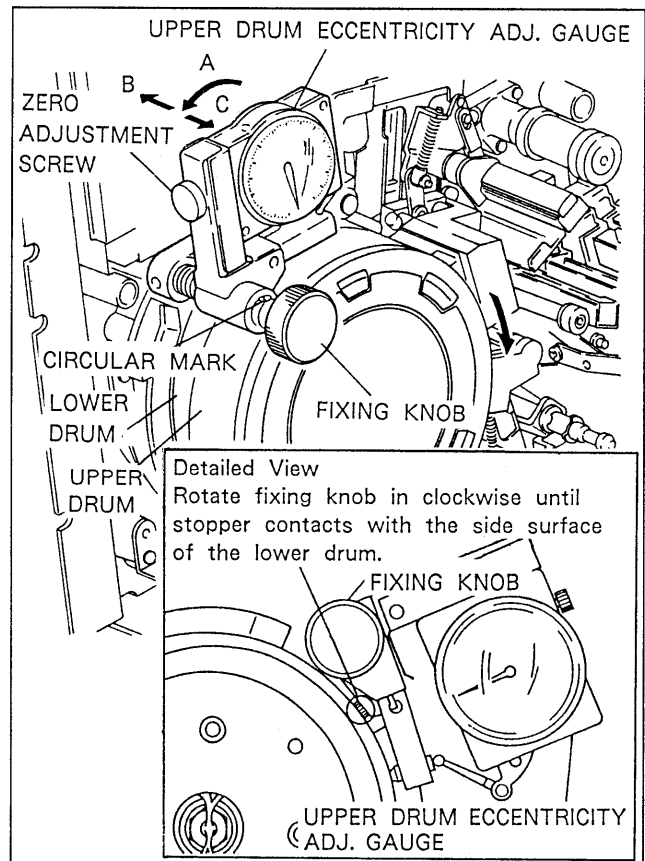

Fig. 5-2-13. Head Projection Check
4. Turn the dial gauge in the direction of the arrow A as shown in Fig. 5-2-13, then move it in the direction of arrow B or arrow C until the circular mark engraved on the shaft of the fixing knob is half hidden, then return the dial gauge towards the drum.